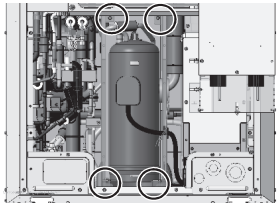

Figure 4
- (4) Remove the right and left compressor covers by unscrewing the four screws. (See Figure 4.)